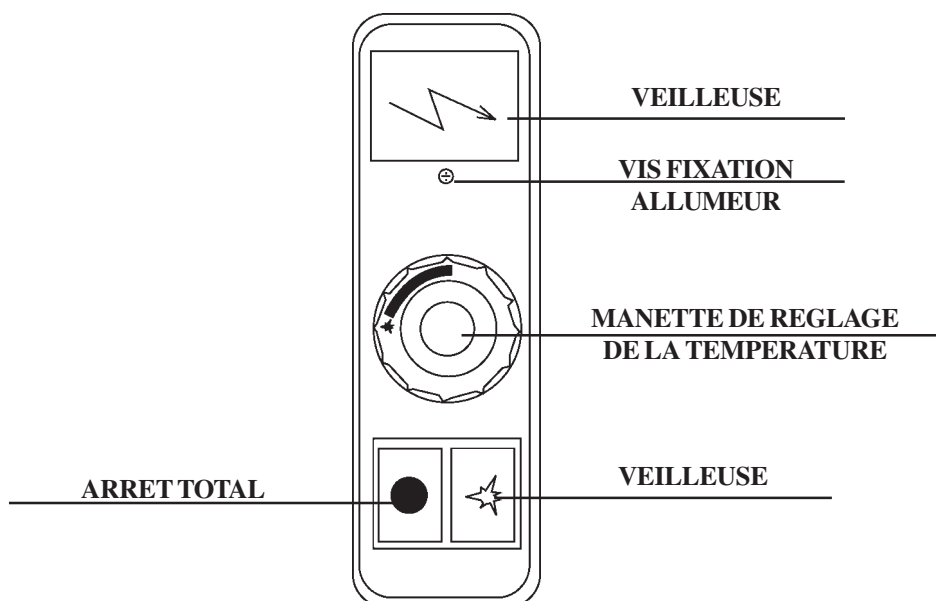

Fig. 10
5.1 ALLUMAGE DU BRULEUR PILOTE (FIG. 10)